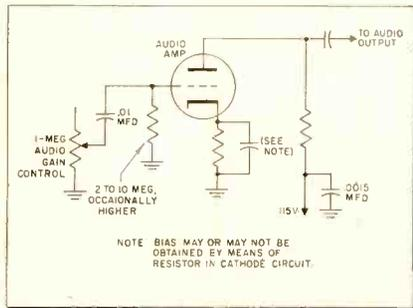

Fig. 1—Conventional first audio amplifier.
Fig. 1—Camera view of the new Kaye-Halbert all "printed-circuit" television receiver chassis. Note concealment of high-voltage circuit and the "Robot" remote control (extreme bottom, left). The remote control unit turns the receiver on and off, adjusts volume and changes channels.
• The first mass-produced all-printed-circuit chassis for television receivers will soon be manufactured by the Kaye-Halbert Corporation of Culver City, California. Production on this newly-designed chassis is scheduled to begin sometime within the next 90 days. The chassis (Fig. 1) was recently previewed in Chicago during Market Week and retail prices for the new set are now being worked out by company officials.
Fig. 1 is a simplified schematic of a conventional first audio amplifier, and indicates typical values of associated components.
In Figs. 2A, B, changes made in the circuit of Fig. 1 to eliminate the undesired signals are indicated. When the original grid resistor is large, it may be necessary to reduce its value to as little as 1 megohm. This will not appreciably affect the gain of the desired audio. However, care should be taken in choice of values for bypass condenser and series resistor or inductance to maintain the grid circuit pre-eminently resistive to audio frequencies (i.e., use a relatively large capacitance, and a small inductance).